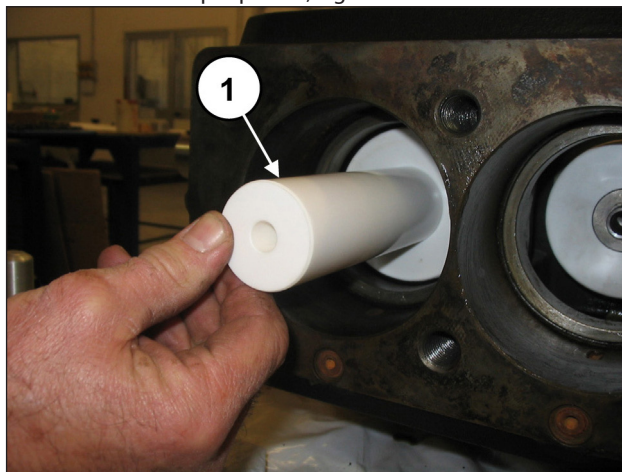
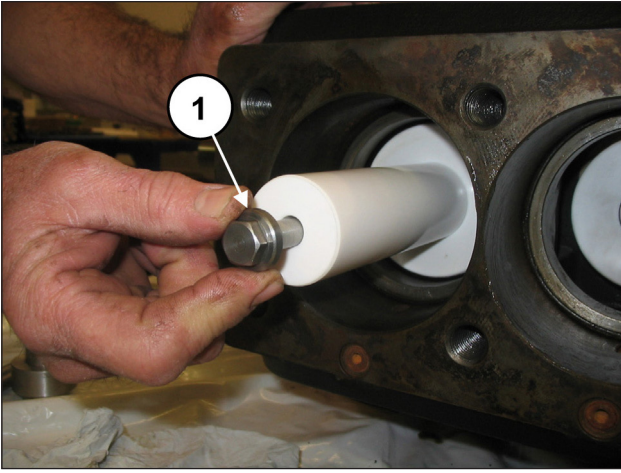

Fig. 177
Fig. 178
Install the pistons on their respective guides (pos. ①, Fig. 177) and fasten them as per pos. ①, Fig. 178.